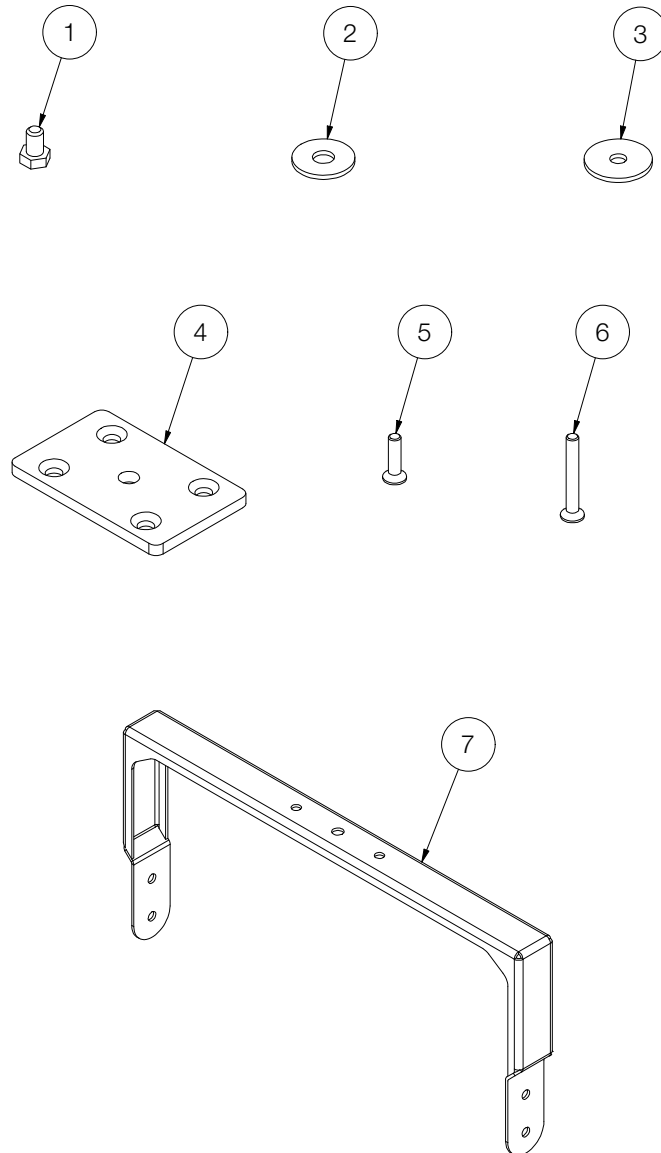
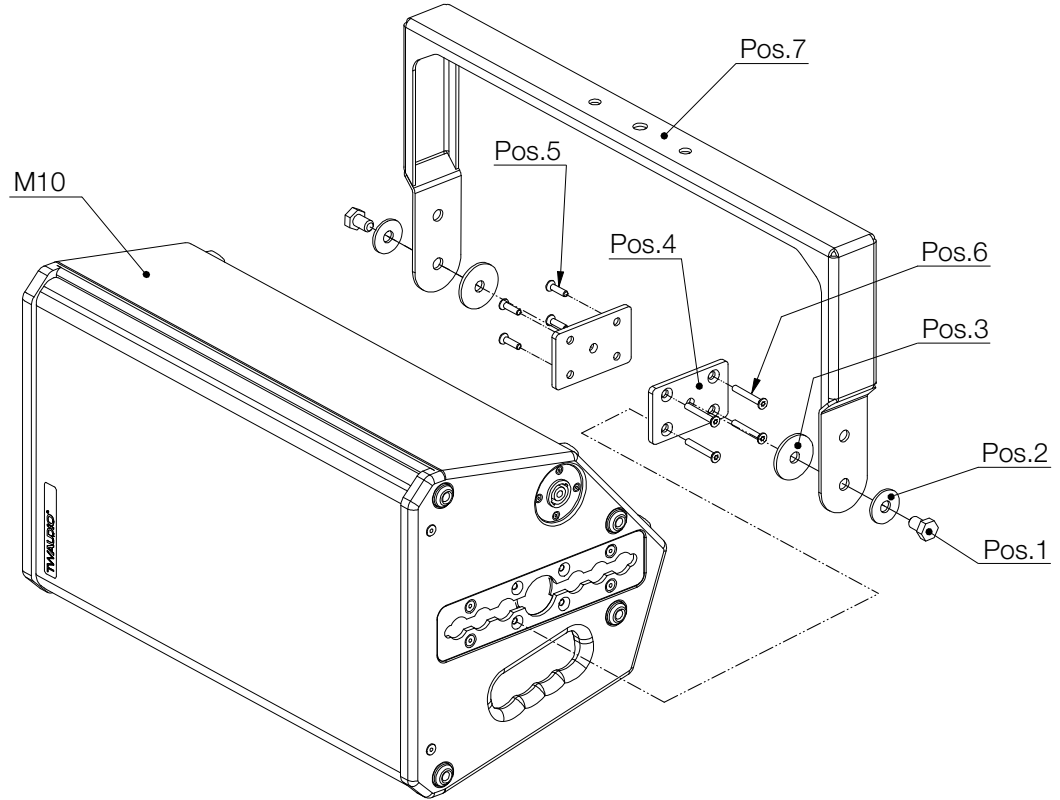

Figure 2.1 - Overview
Figure 4.4.2 - Assembly QBM10 to M10 loudspeaker
Mount positions 1 to 6 (see figure 2.1) on both sides as shown in figure 4.4.2. Note that at pos.7 (see figure 2.1) one of the side holes is used.